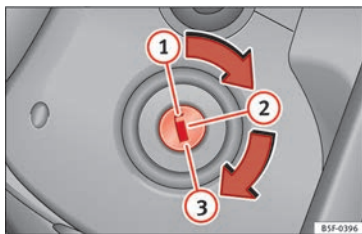

Fig. 168 Ignition key positions.
In this position » Fig. 168, the ignition and the engine are OFF and the steering may be locked.
- Turn the ignition key to position **»» Fig. 168 ②**. The warning lamp  will light for engine pre-heating.
- When the lamp turns off, turn the ignition key to position **③** to start the engine. Do not press the accelerator.
- Turn the ignition key to position  **Fig. 168** .